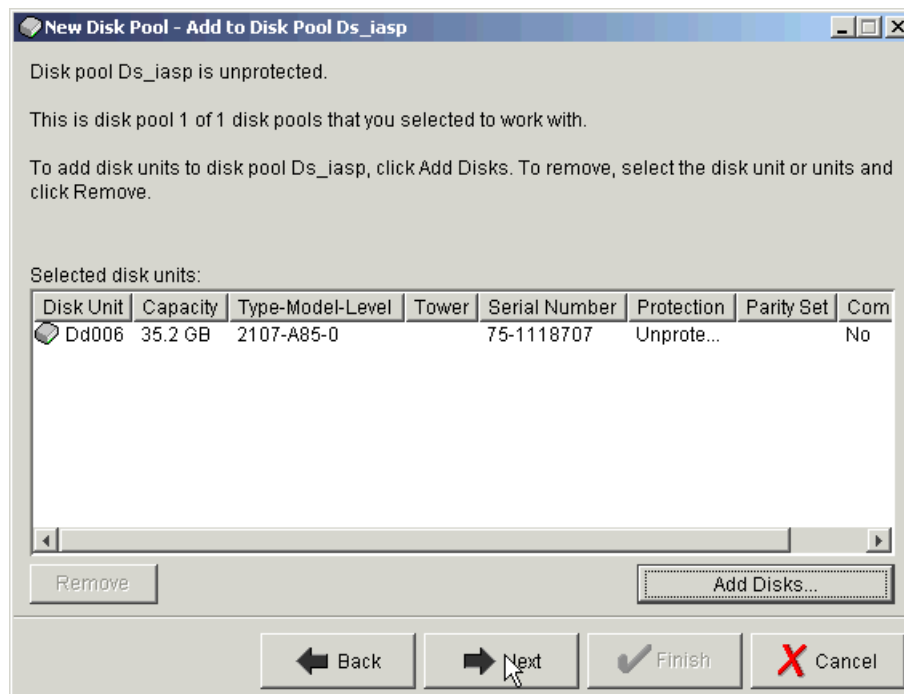

Figure B-16 Confirm disks to be added to Disk Pool
11. A confirmation screen appears as shown in Figure B-16 on page 383. Click **Next** to continue.